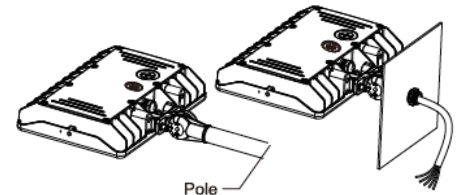

Fig. 17
3. Loosen the screws and adjust fixture angle as needed. Tighten screws. **Note:** Angle of the fixture is adjustable. Pass the threads of bracket through the mounting surface, connect with lock nut, connect power supply wires (Fig. 17).